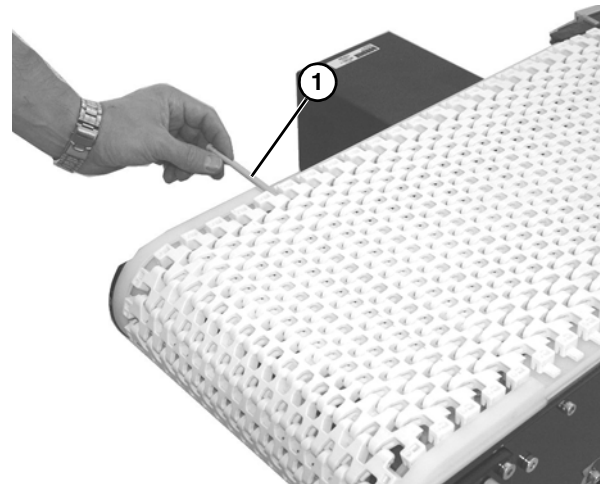

Figure 30
9. Insert the belt rod (**Figure 30, item 1**).